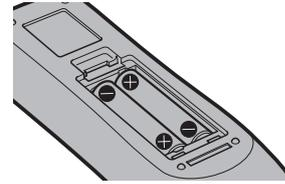

Fig. 2
- 2) **Insert the batteries and close the cover (insert the \ominus side first). (Fig. 2)**